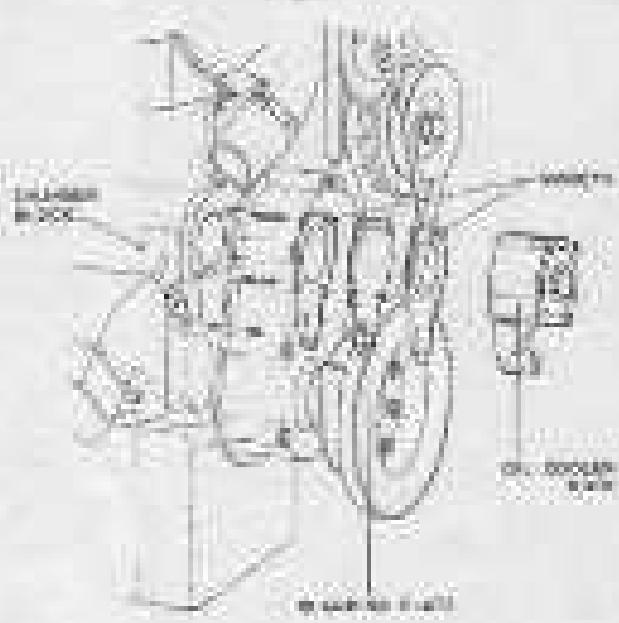

Fig. 12. Exploded internal air cooler assembly.
4. Hold the oil cooler body in a soft-jaw vice and remove the retaining cap and washer, followed by the relief valve retainer and the escape washer, see Fig. 12.